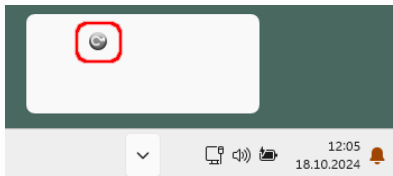

Fig. 1.4.1: CodeMeter®-icon in the system tray.
- Start the “CodeMeter® Control center” on the dongle server (see CodeMeter®-icon in the system tray in the lower right corner of the desktop screen in the Windows taskbar [Fig. 1.4.1])